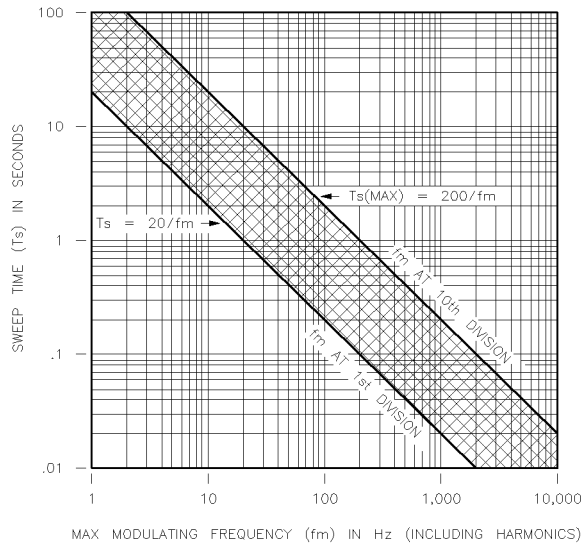

Figure 7-5.
8. Refer to Figure 7-5, which shows maximum modulation frequency (f_m) in Hertz versus sweep time (T_s) in seconds. Set the sweep time less than $T_s(\text{man})$ for the maximum modulation frequency (f_m) including the harmonics of the signal. The upper curve relates the sweep time to the maximum modulation frequency that can be observed (that is, the modulation frequency represented by the right edge of the graticule). The lower curve represents the modulation frequency one division from the left side of the graticule.
Set the sweep time so it falls in the shaded area between the two lines. Refer to Figure 7-5. Set it closer to the bottom line to avoid the effects of aliasing. Note the upper line (marked *fm* AT 10th DIVISION) represents sampling at exactly the Nyquist rate. Some aliasing may be seen when a value for sweep time is close to the upper line. (Frequencies greater than the maximum modulation frequency for a specific sweep time will not be displayed accurately.)